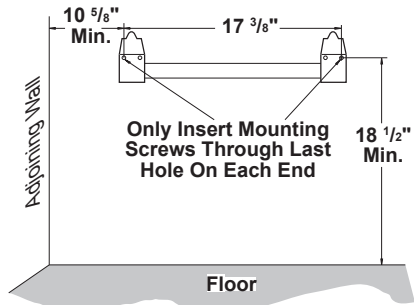

Figure 7 - Mounting Bracket Clearances
2. Mark screw locations on wall (see Figure 7).